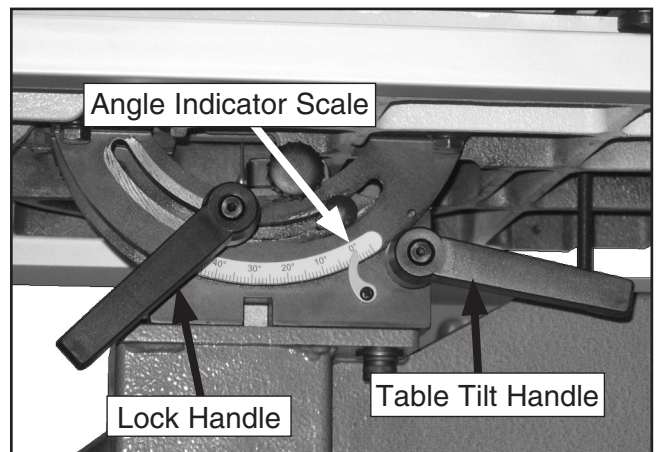

Figure 35. Table tilt controls.
2. Loosen the lock handle on the table trunnion shown in **Figure 35**.